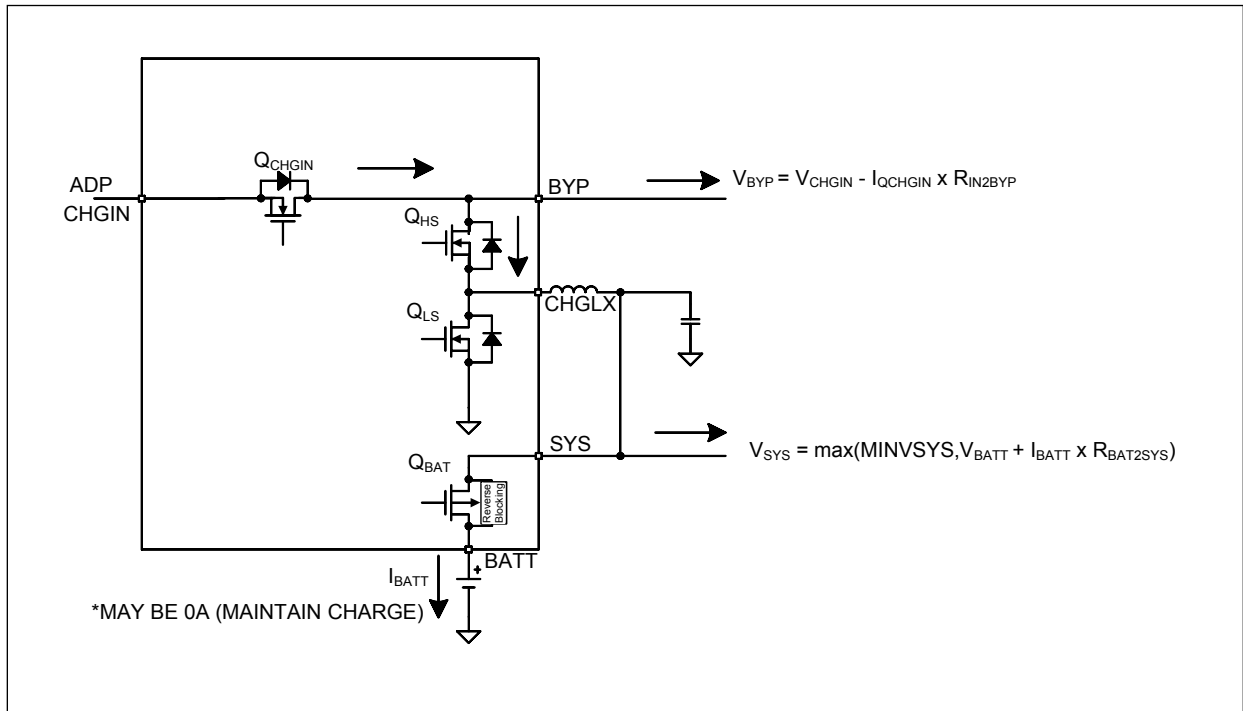

Figure 9. Charge-Buck
6. CHARGE-BUCK, MODE = 0x0D: Adapter is detected within the input voltage operating range ($Q_{CHGIN} = \text{on}$). Battery is connected in charge mode ($Q_{BAT} = \text{on}$) and charger is operating in buck mode, see Figure 9.